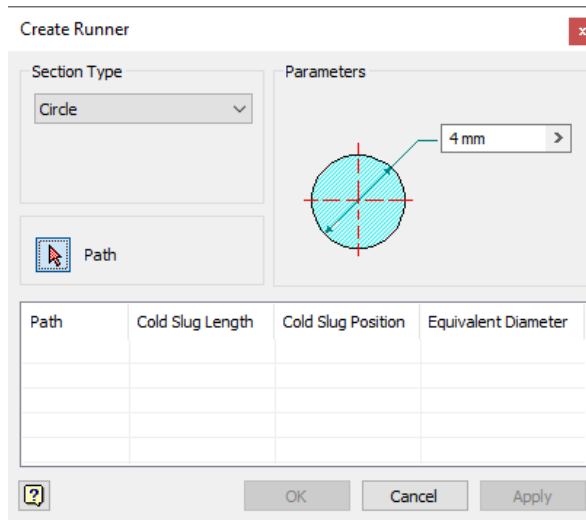

Figure 19-82 The *Create Runner* dialog box
1. Choose the **Runner** tool from the **Runner** drop-down in the **Runners and Channels** panel in the **Mold Layout** tab of the **Ribbon**; the **Create Runner** dialog box is displayed, as shown in Figure 19-82.